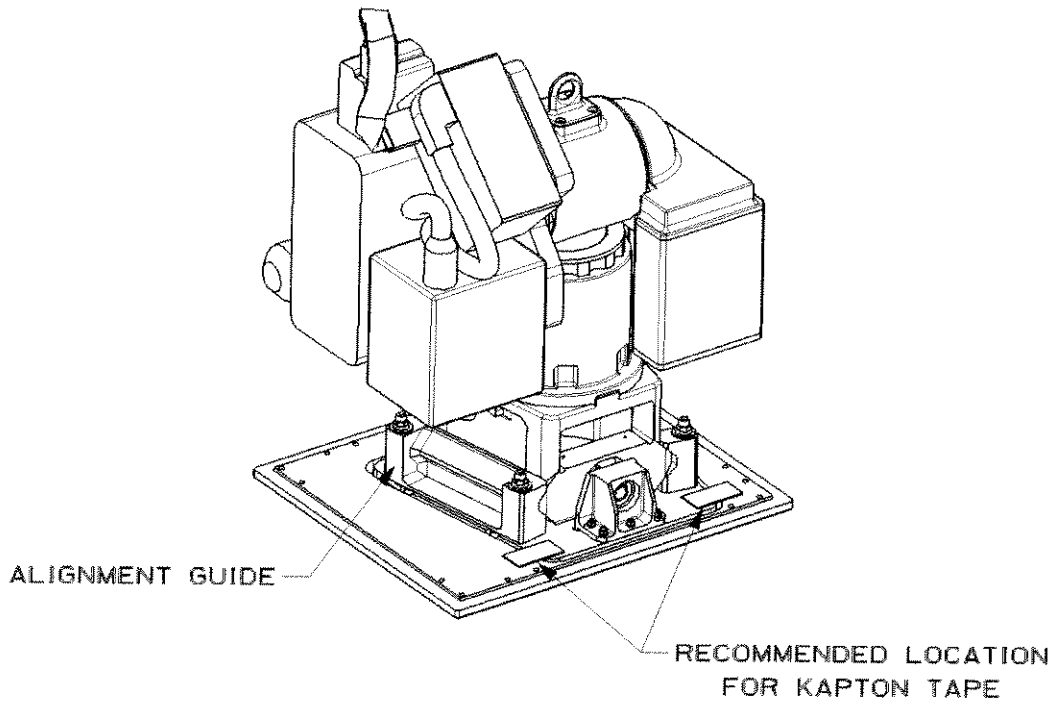

Figure 3
6. CLPA should slide freely from the base plate. It may be necessary to loosen four nuts on top of alignment guides (figure 3)